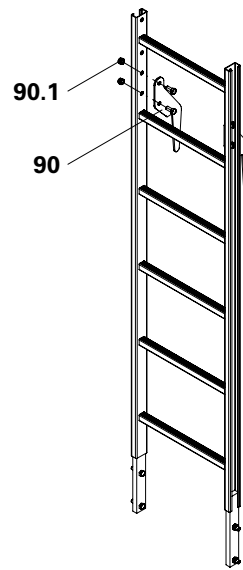

Fig. B5.09
1. Secure ladder hook (90) to the 2 bottom holes on the ladder rail using 4x bolts M12 x 25 and nuts (90.1) which have been provided.
2. Securely mount the ladder base (88). See above.
- (Fig. B5.09 + B5.10)